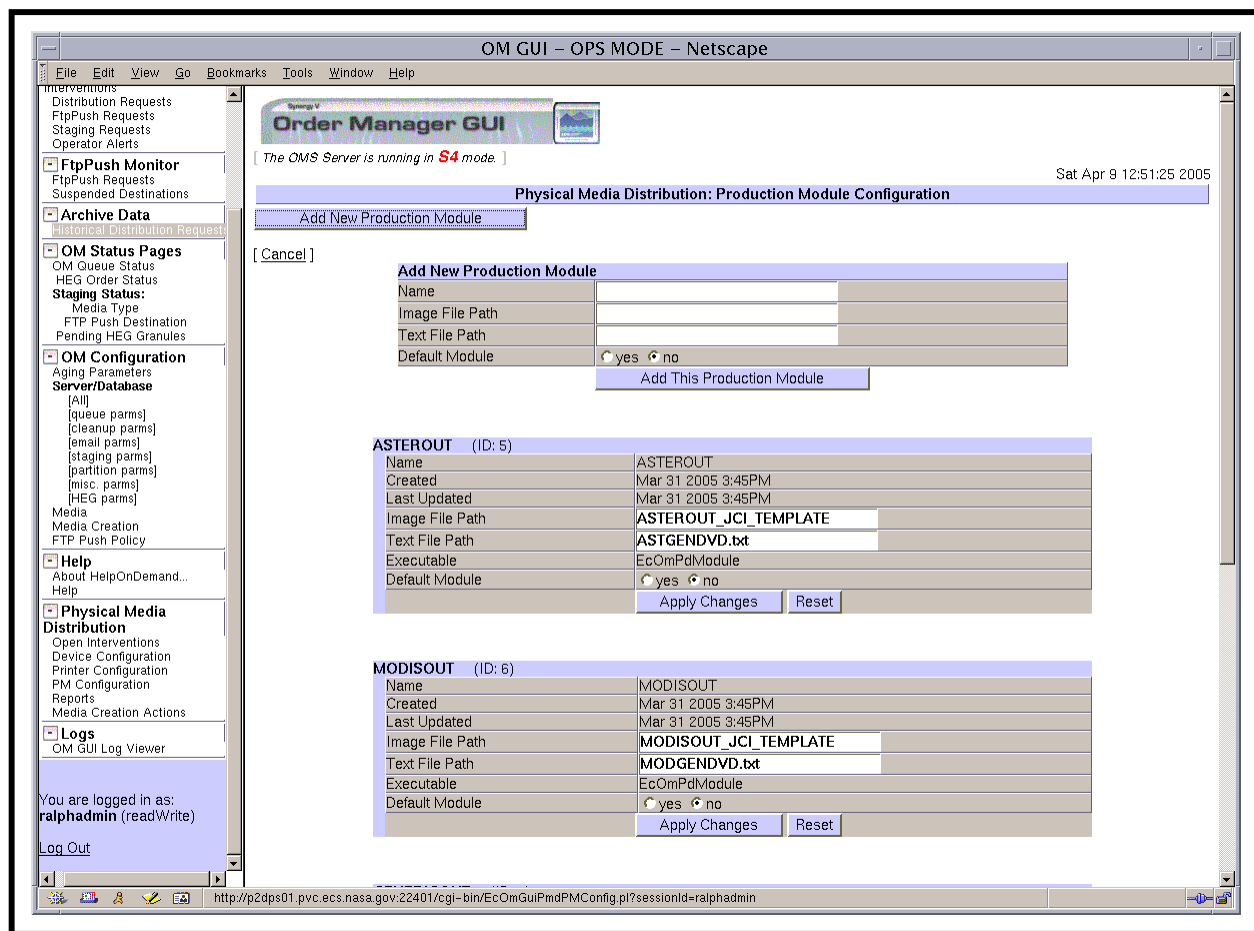

Figure 87. Add New Production Module Table (PMD Production Module Configuration Page)
- An **Add New Production Module** table is displayed on the **PMD Production Module Configuration** page (Figure 87).
- The **Add New Production Module** table on the **PMD Production Module Configuration** page (Figure 87) is dismissed.